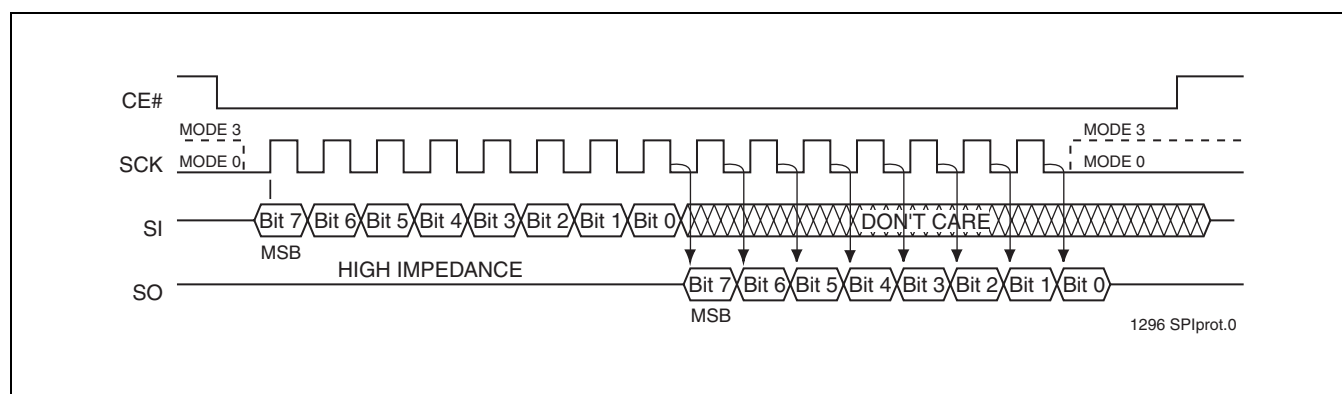

FIGURE 3: SPI Protocol
The SST25VF080B supports both Mode 0 (0,0) and Mode 3 (1,1) of SPI bus operations. The difference between the two modes, as shown in Figure 3, is the state of the SCK signal when the bus master is in Stand-by mode and no data is being transferred. The SCK signal is low for Mode 0 and SCK signal is high for Mode 3. For both modes, the Serial Data In (SI) is sampled at the rising edge of the SCK clock signal and the Serial Data Output (SO) is driven after the falling edge of the SCK clock signal.